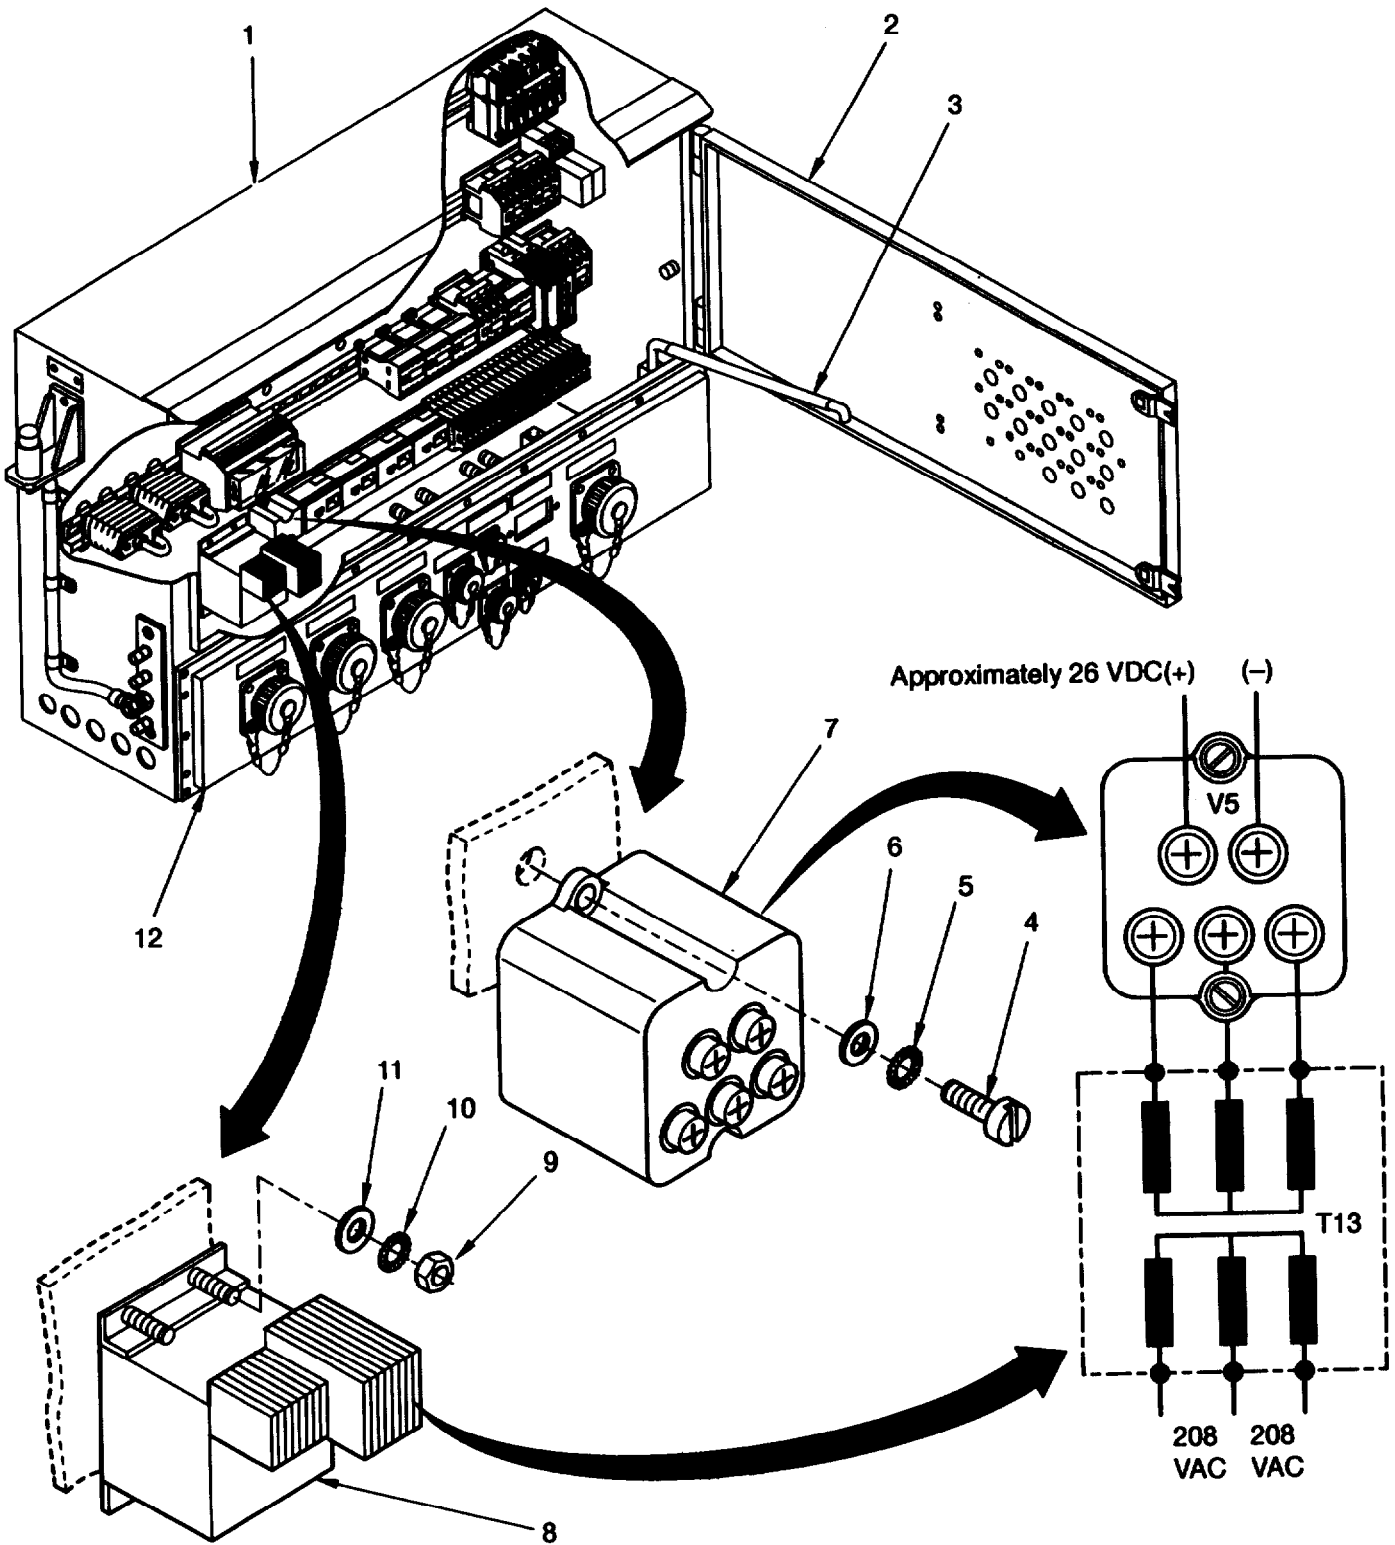

Figure 5-16 Internal Power Supply V5/T13.
- a. Remove stanchion by PDU (1, figure 5-16).
- b. Open access door (2) and secure with prop (3).
For this test transformer T13 must be connected to rectifier V5 as shown in figure 5-16.